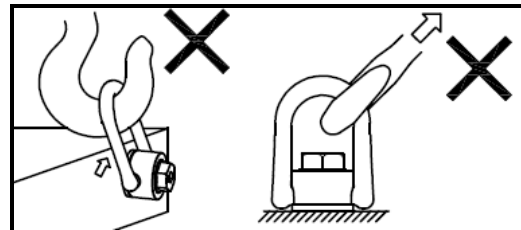

Figure 2
- Apply partial load and check proper rotation and alignment. There should be no interference between load (work piece) and Anchor Point bail (Fig. 2).